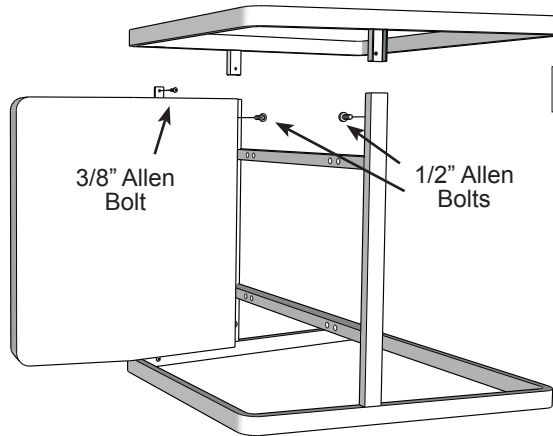

Fig 5
6. Place second leg frame on top of assembly, as shown in figure 5. Be sure back support bar is inserted into slot in leg frame. Secure using 3/8" and 1/2" Allen bolts.